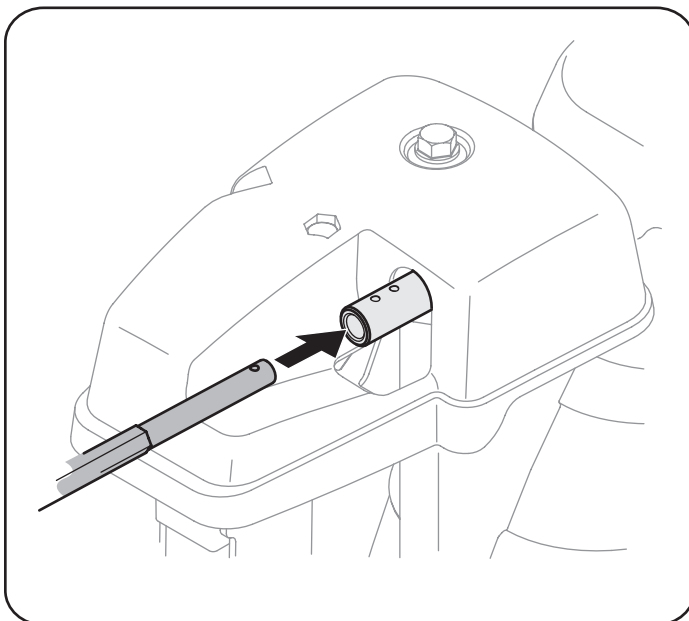

Figure 5
3. Insert chute control rod into input of chute control head. Push rod as far into the chute control head as possible, keeping the holes in the rod pointing upward. See Figure 5.